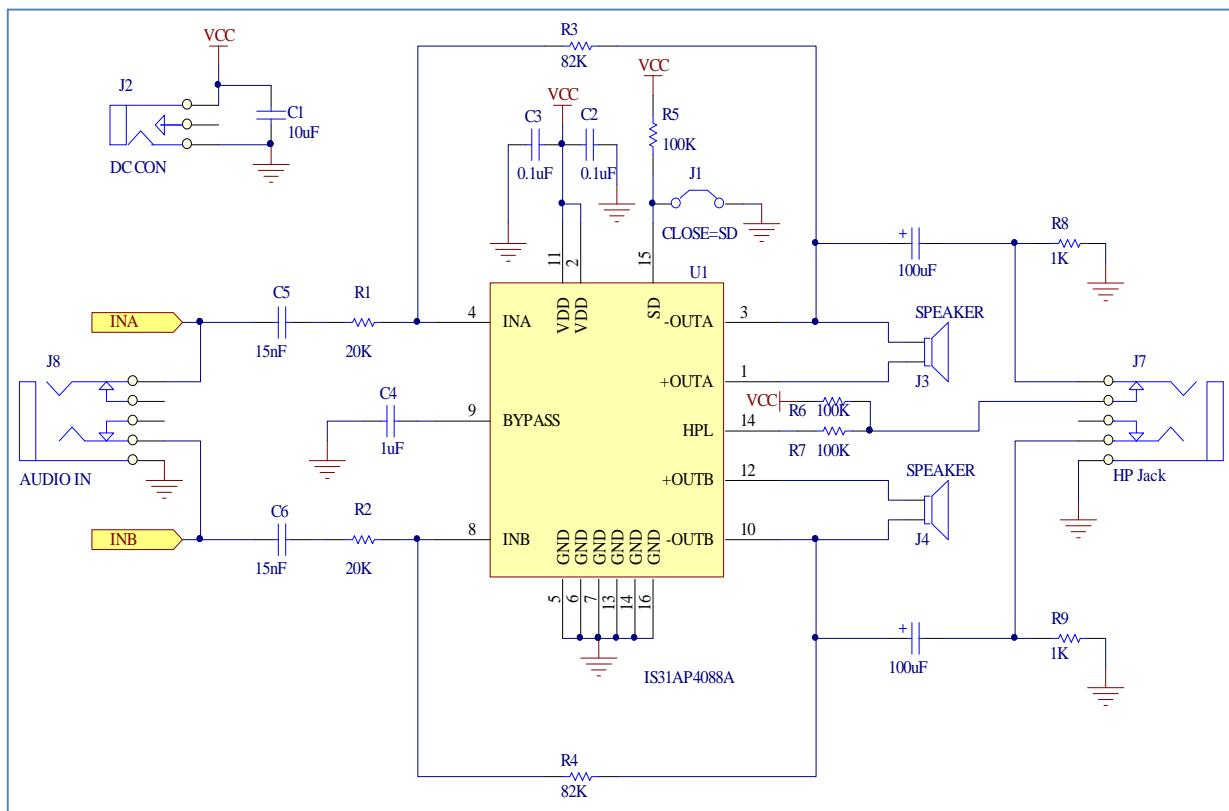

Figure 2. IS31AP4088A Application Schematic
*Table 2. Bill of Materials; please refer to Figure 2 above for additional information.*